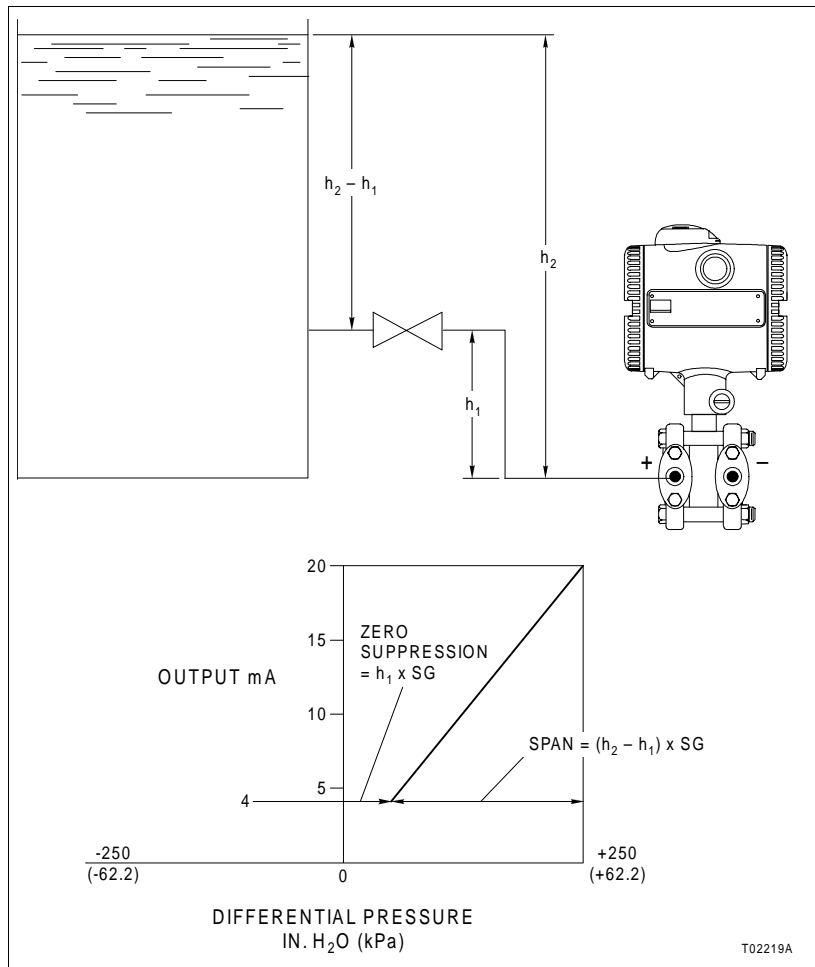

Figure 3-5. Open Tank Level Measurement
In an open vessel, level can be measured by making a pressure measurement (P) at the bottom of the vessel (Figs. 3-5 and 3-6). The pressure at the transmitter + (high pressure) connection is equal to the product of the height ( $h_2$ ) and the specific gravity (SG) of the liquid. Since SG is known, and P is the measured pressure, then:
5. The output of the transmitter is proportional to the level of the liquid above the cell times the specific gravity of the liquid. If the zero point of the desired level range is above the cell, the lower range value must be changed to reflect this. Refer to Section 4 and Section 5 for more information. Figure 3-5 includes a graphical representation of this application.